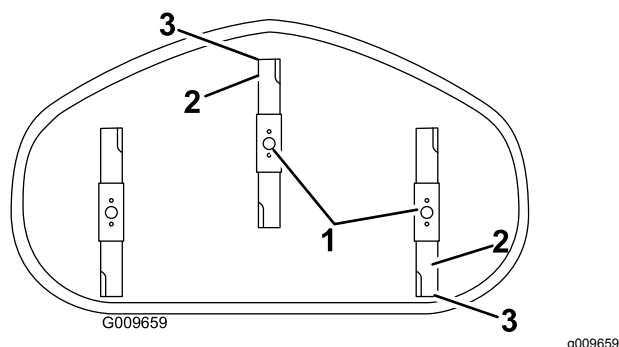

Figure 56
4. Carefully rotate the blades so that they are facing front to rear (Figure 56).
5. Measure from the tip of the front blade to the flat surface, and the tip of the rear blade to the flat surface (Figure 56).
7. After adjustment, check the front-to-rear slope again, continue adjusting the nut until the front blade tip is 1.6 to 7.9 mm (1/16 to 5/16 inch) lower than the rear blade tip (Figure 56).